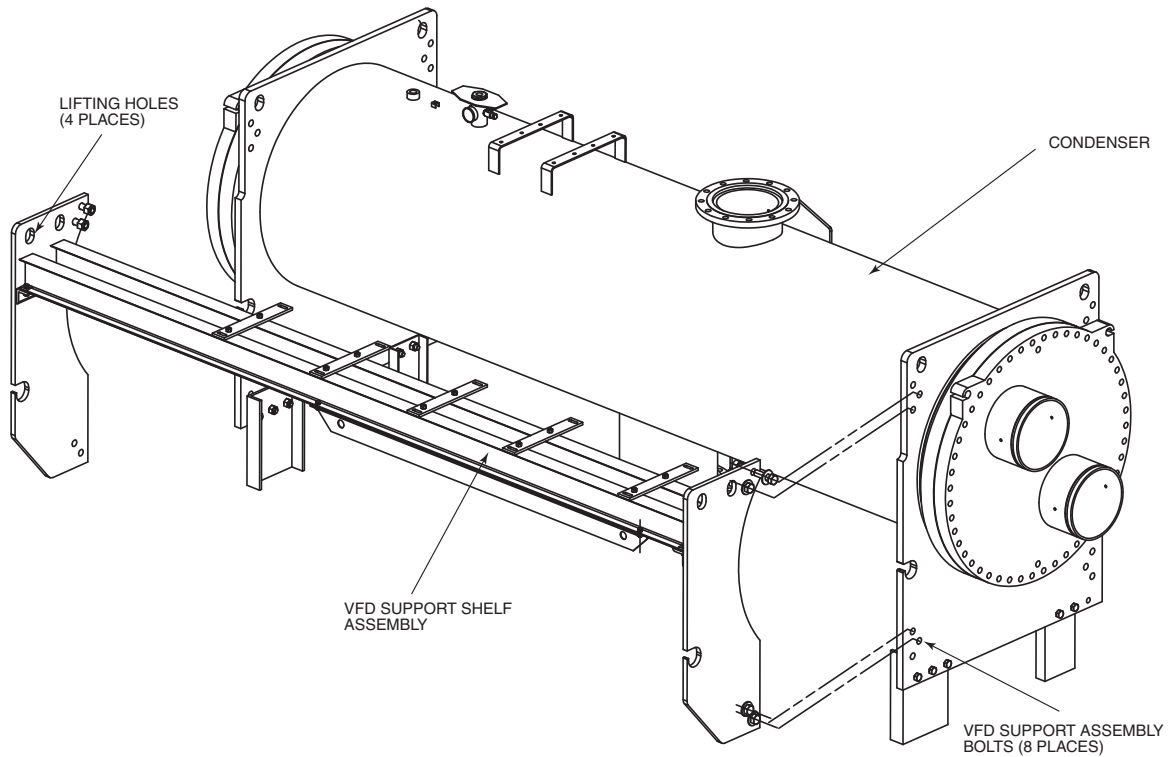

Fig. 20 — 900A or 1200A VFD Support Assembly Installation
3. The VFD support assembly can be removed from the condenser if it is necessary to reduce the width of the condenser assembly. The eight 1 1/8-7 bolts that secure the VFD support assembly to the tubesheets should be torqued to 750 ft-lb (1017 N-m) when the support assembly is reinstalled. See Fig. 20.